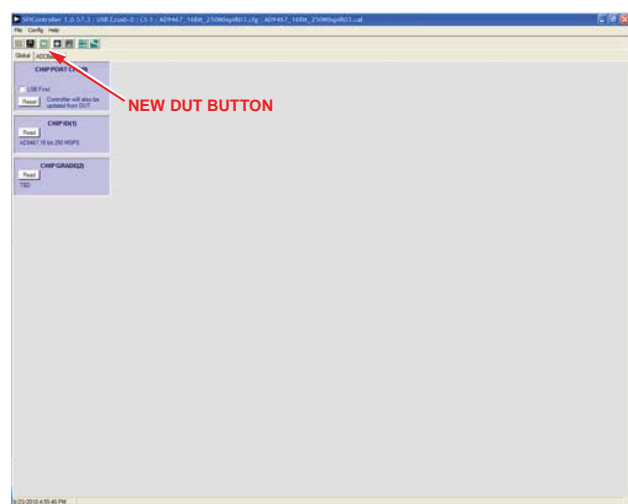

Figure 9. SPI Controller, New DUT Button
2. Click the **New DUT** button in the SPI Controller (see Figure 9).